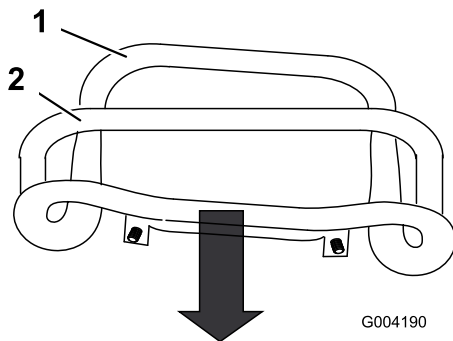

Figure 52
3. Pull straight back on the traction control so the front of the control contacts the reference bar (Figure 52).